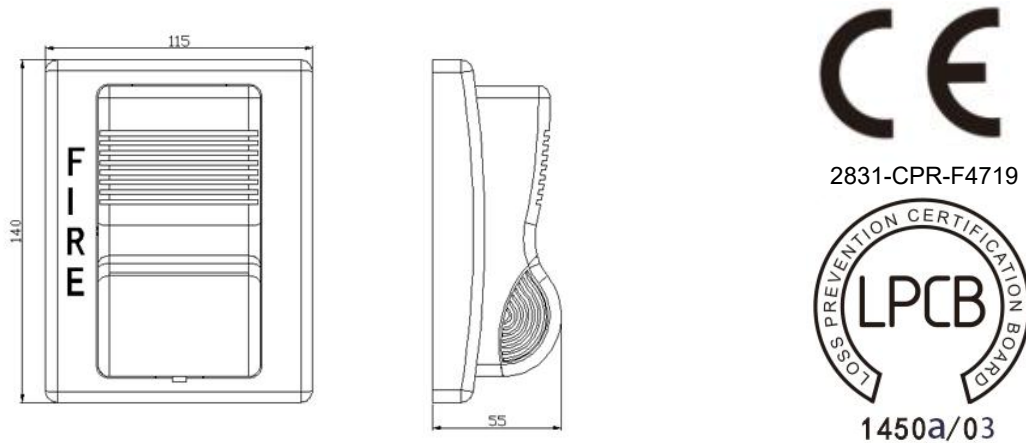

Fig. 1 TCSG5270 Sounder Strobe--Outline Structure and Installation Dimensions
4.1 Outline of the sounder strobe is shown as Fig.1.